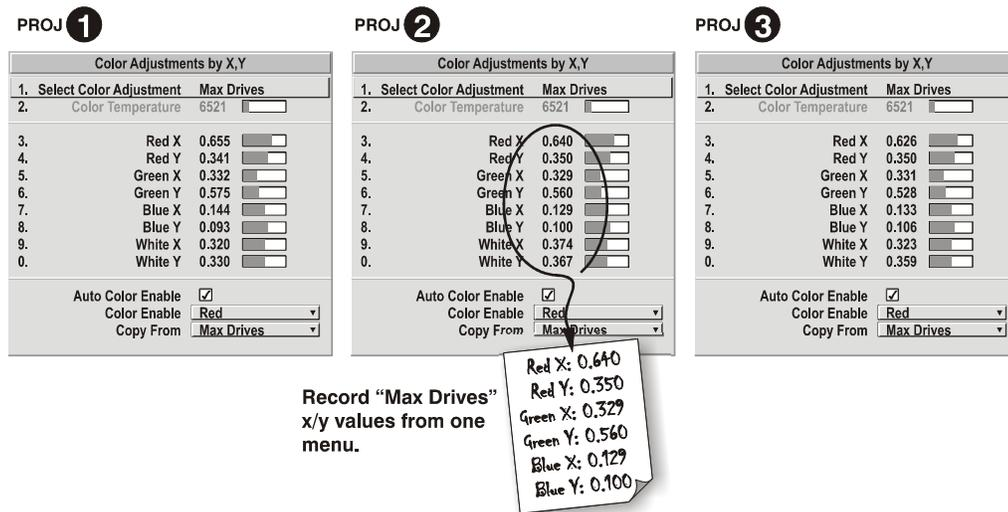

FIGURE 4-20 MAKE NOTE OF A SET OF “MAX DRIVES” X/Y VALUES
4. Display the *Color Adjustments by X,Y* menus for all projectors. Each menu shows the x/y coordinates defining the “Max Drives” color gamut for this projector. Take note of the values shown in one (any) of the displays. See Figure 4-20 Make note of a Set of “Max Drives” X/Y Values. Or use the “Copy From” function to copy them into a “User” gamut in one projector.